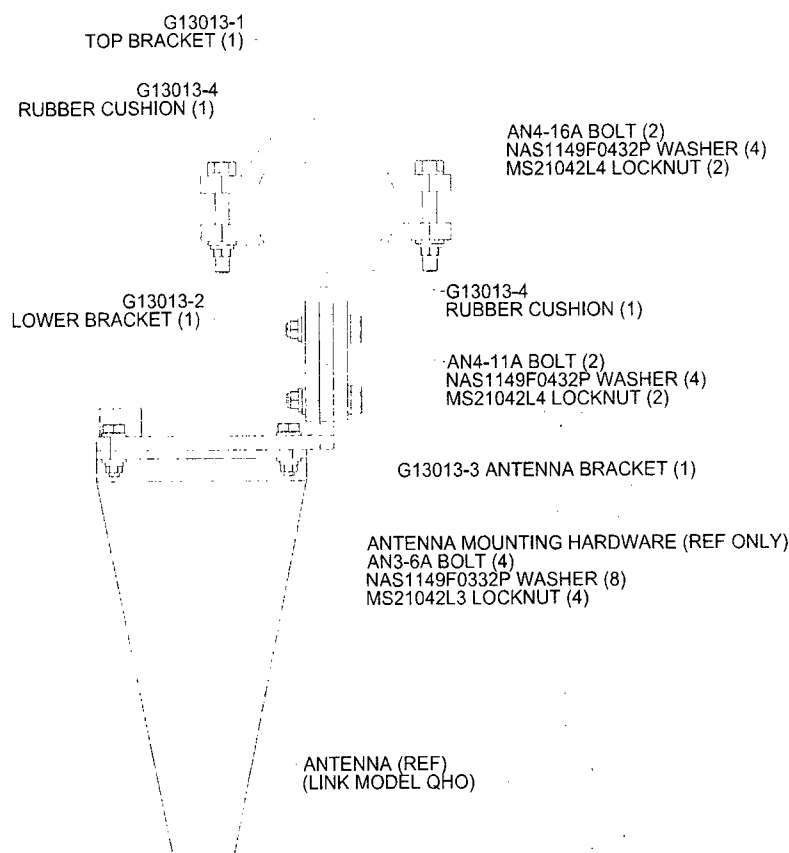

Fig 1 Mount Assembly Details
- 1.2. The mount assembly shown in Fig 1 is typical for both forward and aft installations and also for LH and RH side installations.